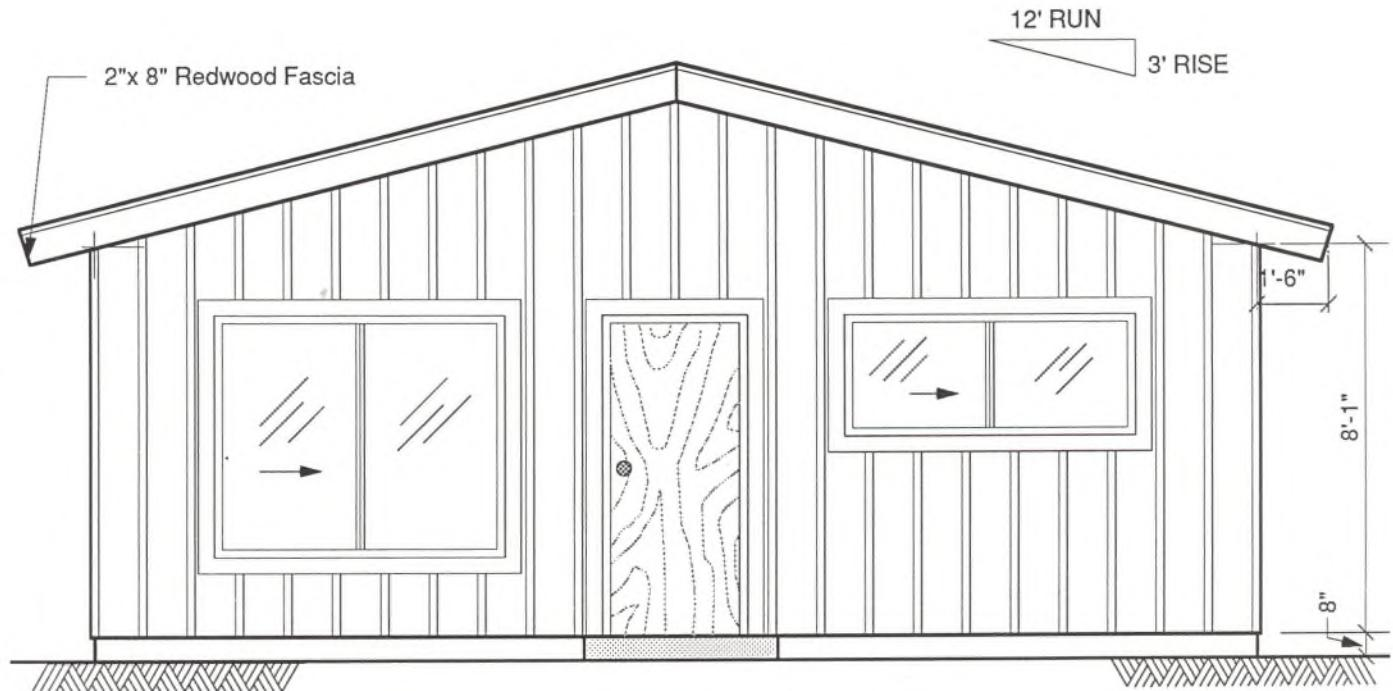

Fig. 24.12 Draw the finishing details.
1. Fascia board is typically applied to rafter ends. Draw it as shown in Fig. 24.12. Fascia boards are usually 2" thick by 6", 8", or 10" wide, depending on the desired appearance. The minimum width required is one size larger than the rafters.